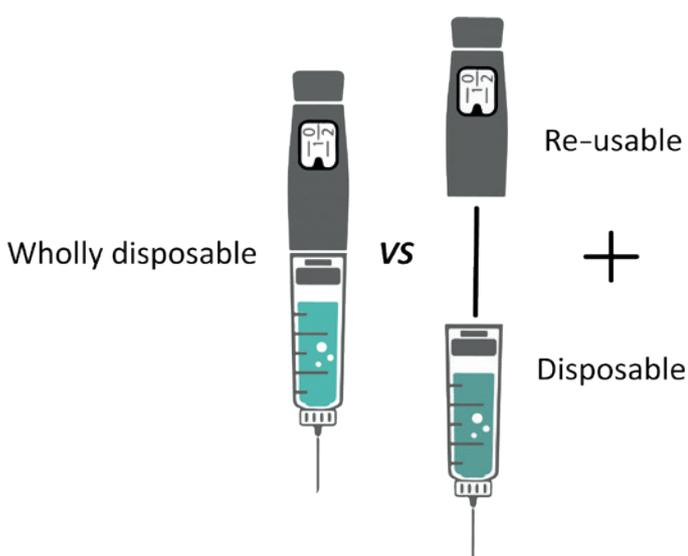

Figure 2: A wholly disposable versus a part disposable, part re-usable pen injector.
2. Part re-usable and part disposable (Figure 2).